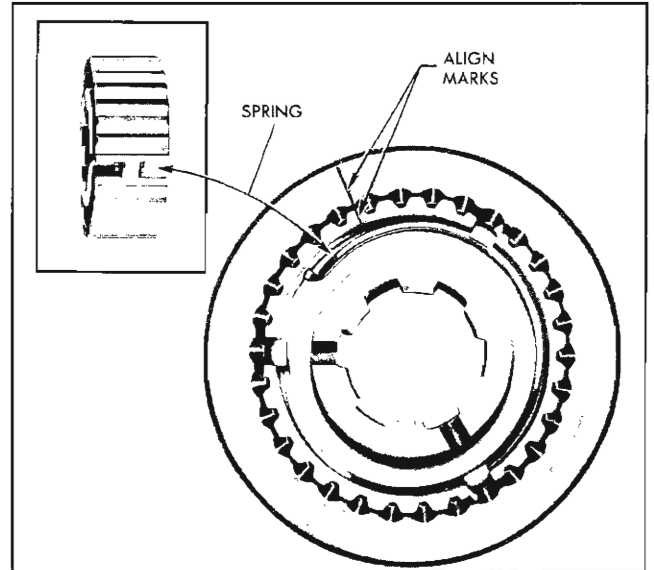

Fig. 7B-23 Synchronizer Spring and Hub Installed
2. Place the two springs in position (one on each side of the hub), so a tapered end of each spring falls into the same keyway in the hub (inset, Fig. 7B-23). Holding keys in position, align etched marks (Fig. 7B-23), in hub and sleeve, then slide hub into sleeve. *Be sure etched marks align after assembly.*